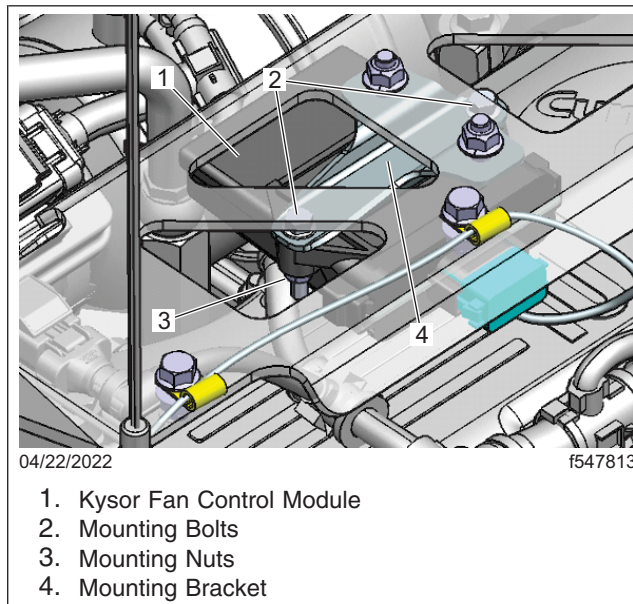

Fig. 5, Kysor Fan Control Module Removal
5. Remove the two fasteners that attach the Kysor fan control module to the mounting bracket, then remove the fan control module from the vehicle, and discard it. See Fig. 5.